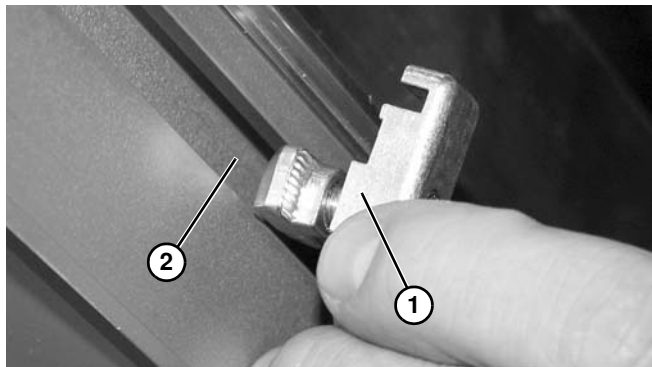

Figure 33
- Install guide clip assembly (**Figure 33, item 1**) into conveyor t-slot (**Figure 33, item 2**) as shown.